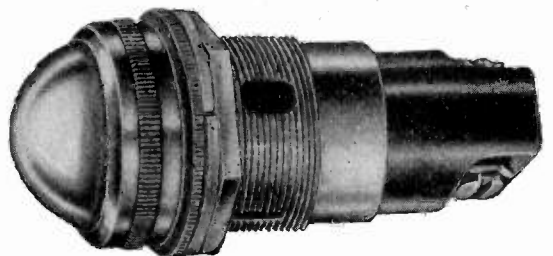

FIG. 6
- 80704-841 Screw cap, Dome plastic lens, matted back (Fig. 6) Screw terminals (Fig. 11)
- 80914-841 Screw cap, Dome lens (Fig. 6) Binding screw terminals (Fig. 8)